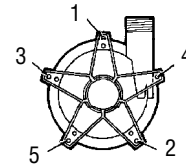

Figure 2
7. Align mounting holes and install 5 Phillips pan head screws and hex nuts. Hand tighten screws to 30 in•lbs (3.34 N•m) of torque using pattern shown in Figure 2.